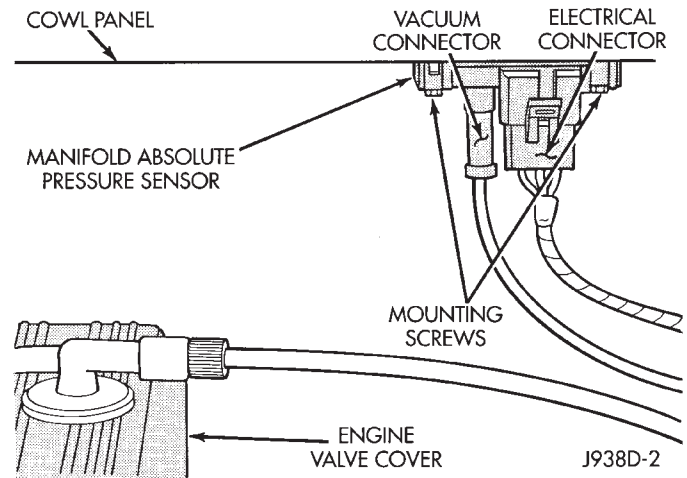

Fig. 24 MAP Sensor—4.0L Engine
4.0L Engines: The MAP sensor is located on the cowl panel near the rear of the engine valve cover (Fig. 24).